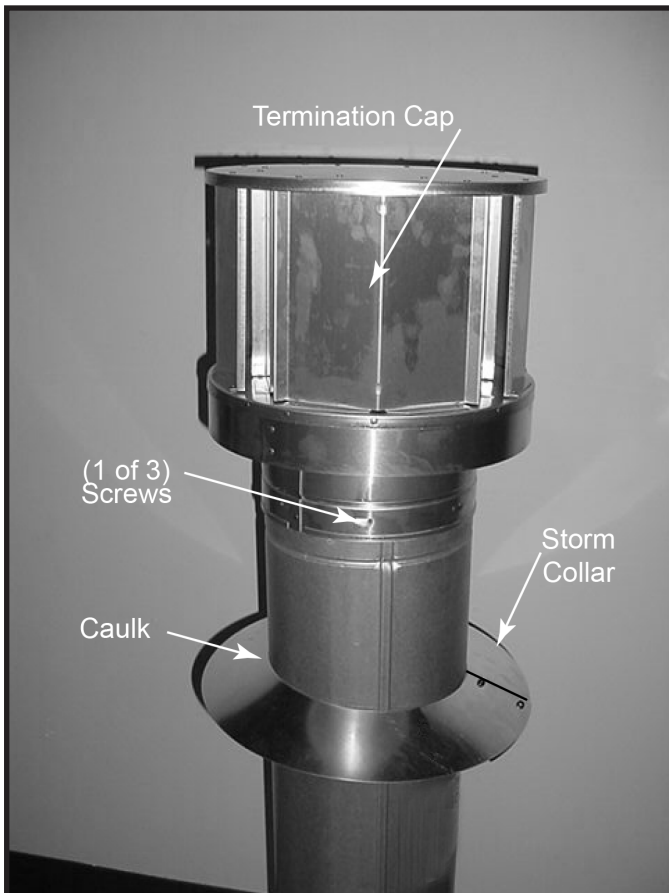

Figure 7.12
- Caulk around the top of the storm collar. See Figure 7.12.
- Secure the cap by driving three self-tapping screws (supplied) through the pilot holes in the outer collar of the cap into the outer flue of the pipe (see Figure 7.12).